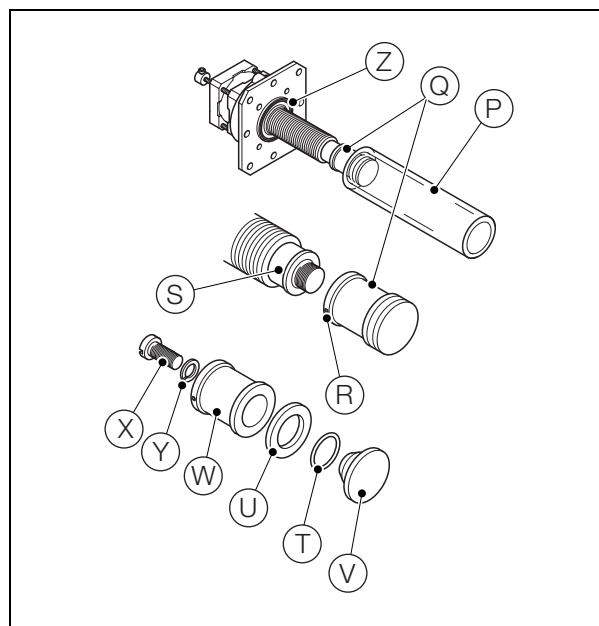

Fig. 13.15 Dismantling/Reassembling the Piston
8. Referring to Fig. 13.15:
- a. Slide the sample tube (P) off the piston assembly (Q). Discard the sample tube.
- b. Loosen retaining grub screw (R), unscrew the piston assembly (Q) from the piston shaft (S) and discard the piston assembly.
- c. Lightly lubricate the new O-ring (T) and piston seal (U) with the silicon grease from the piston kit.
- d. Fit the O-ring and piston seal to the new piston base (V).
- e. Insert the piston base, complete with seal and O-ring, into the new piston top (W) and secure loosely with the new piston cone adjusting screw (X) and spring washer (Y).